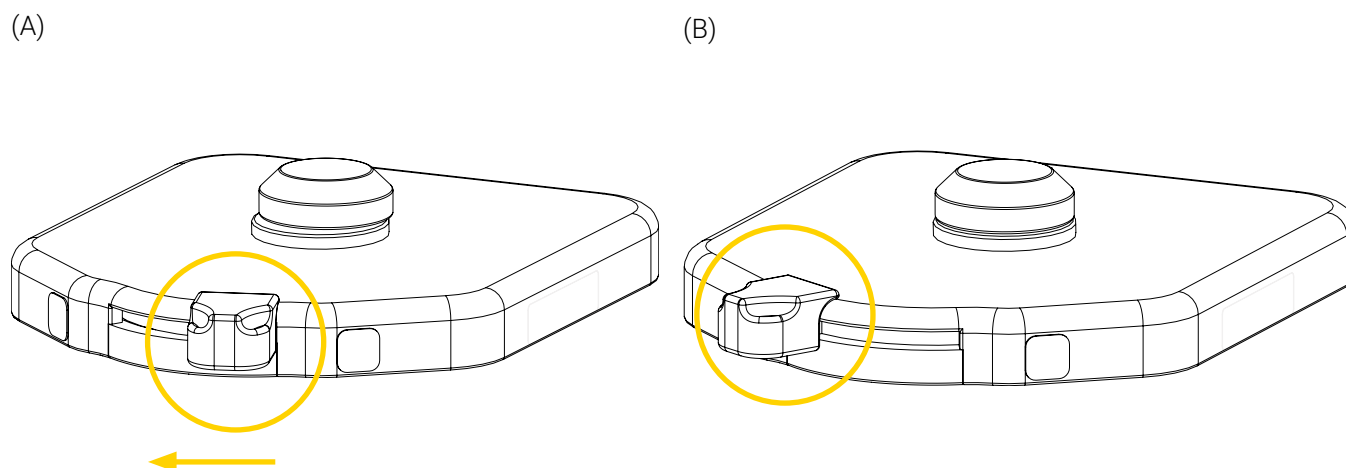

Figure 5: Unlocking the base
1. Ensure that the slide locking lever of the quick release mechanism of the base is in the unlocked position. If the lever is in the locked position  (Figure 5 A), slide the lever to the left in the unlocked position  (Figure 5 B).